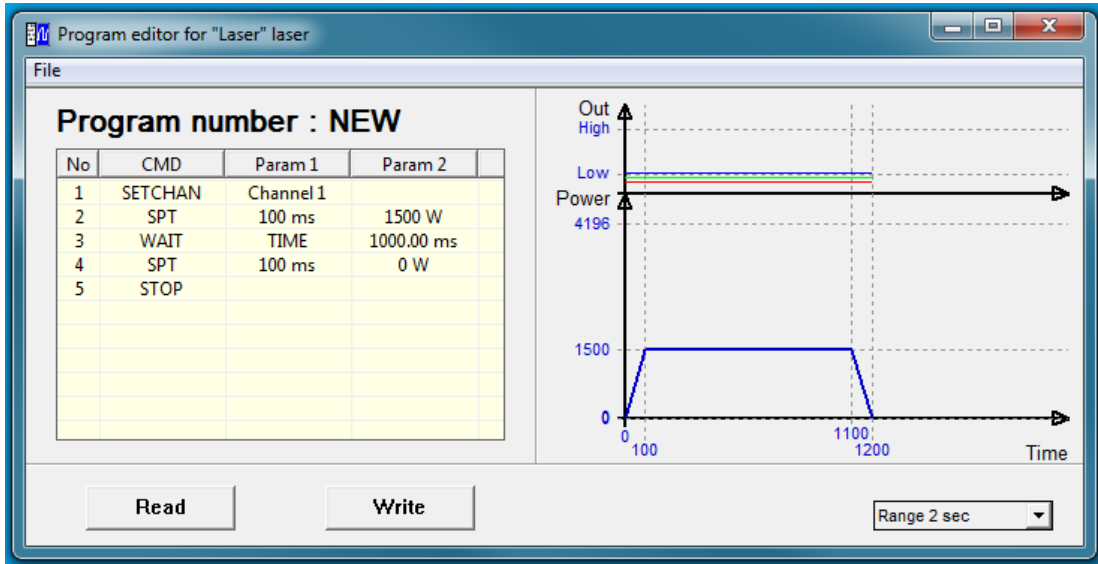

Figure 9-4 Sample LaserNet Program
3. Enter the sample program in Figure 9-4, if the laser does not have a beam switch, omit program line 1, change timing and emission level as needed.